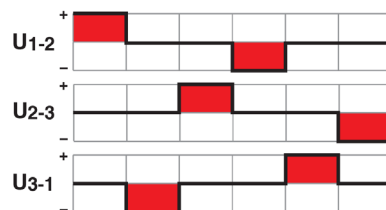

Figure 6-43 Block commutation of EC (BLDC) motors – Definition of phases
- either ensure that the alignment follows the specified pattern (→ Figure 6-43)